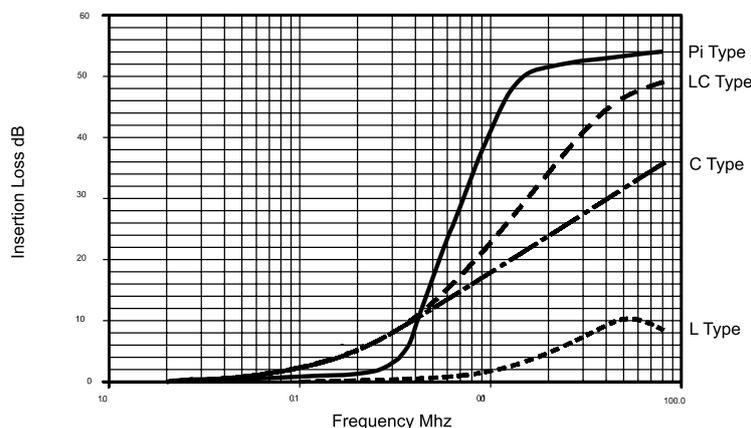

Figure 5 - Insertion Loss for various filter configurations
Figure 5 shows a comparison of typical insertion loss characteristics of different filter configurations. These graphs show that although the insertion loss of an inductive element (L) on its own is very poor, when it is combined with a capacitor to form an LC filter the performance is improved dramatically.